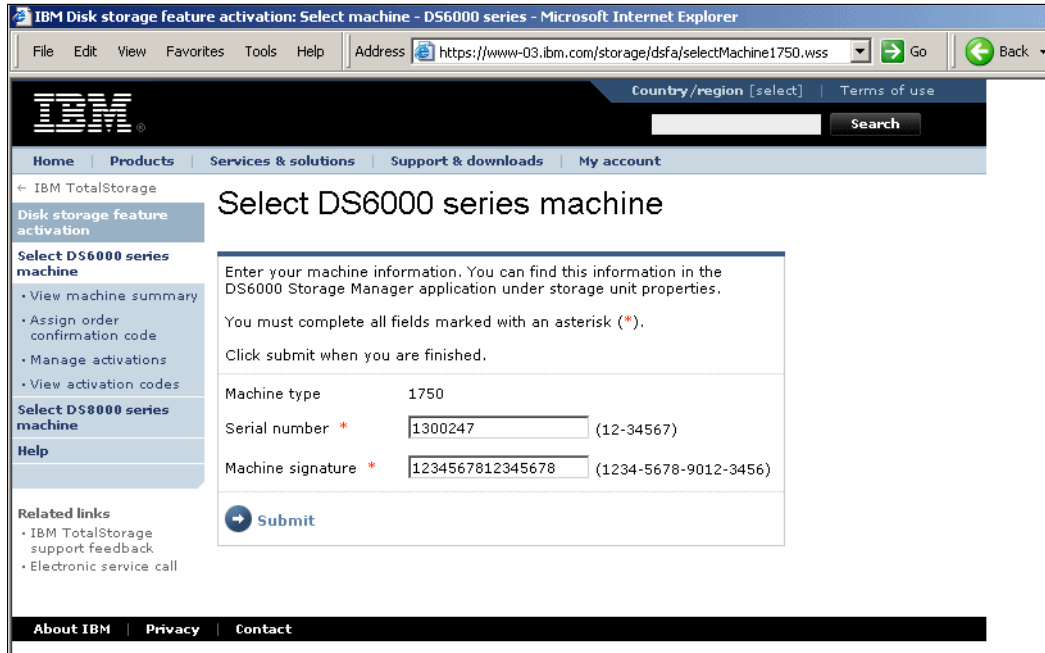

Figure 8-5 DS6000 DSFA machine information entry page
2. Click the DS6000 series link (machine type is 1750). This will bring you to the DS6000 DSFA machine information entry window. Now use this window to input the machine information you got from 8.2, “Obtaining the machine signature” on page 146 and click **Submit** (see Figure 8-5).
**Note:** The Web site examples in Figure 8-5 show the serial number and the signature with dashes. An example is 13-00247, as opposed to 1300247. There is no need to insert dashes. The serial number and the signature will input correctly whether there are dashes present in the numbers or not.